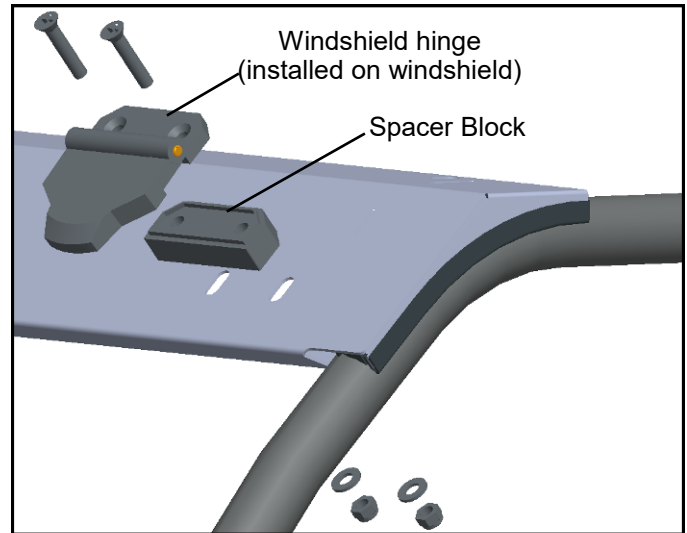

Fig. 9 (attach windshield)
9. Per fig. 9, attach the windshield to the windshield support using four 5/16-18 x 1 3/4" long flat head bolts, four 5/16" steel washers, and four 5/16" locknuts. Be sure to sandwich the hinge spacer block under the hinge. Do not tighten the bolts at this time.